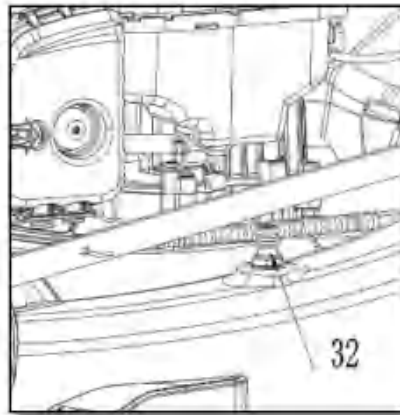

Fig. 23
1. Carry out the water supply deck cleaning in a flat area with good water drainage. Connect a garden hose to the water inlet (32) on the mower deck (Fig. 23).
3. Pull the brake lever (3) and hold it against the upper handle bar (2), then pull the recoil starter handle (31) lightly to start the engine and cutting blade (27).
4. Stop the engine by releasing the brake lever (3) when no further dirty water or debris can be seen exiting the underside of the product.